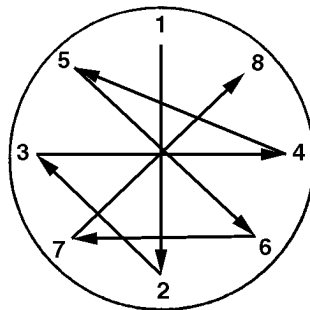

Figure 4. Cap Attaching Screw Tightening Sequence
- f) Install the spring (12) in the piston (14). Put the cap assembly on the valve body (31). Carefully align the tubes (26 and 27) with the hole in the cap (3). Make sure that the spring (12) remains in its correct position and press the cap downward. Secure the cap with two of the screws (4).
- g) Install the remaining six screws (4) and tighten all eight of the screws evenly in the sequence shown in Figure 4 (the starting point optional).
- h) Install the plugs (2) in the valve body as required, using commercial sealant on the threads.